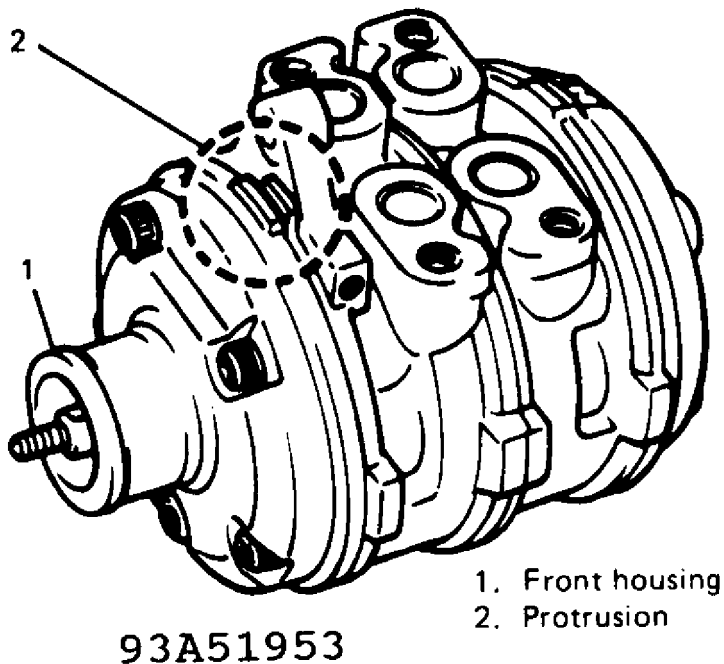

Fig. 29: Proper Placement of Front Housing
4. Install front housing front cylinder and tighten five through bolts. See Fig. 29.